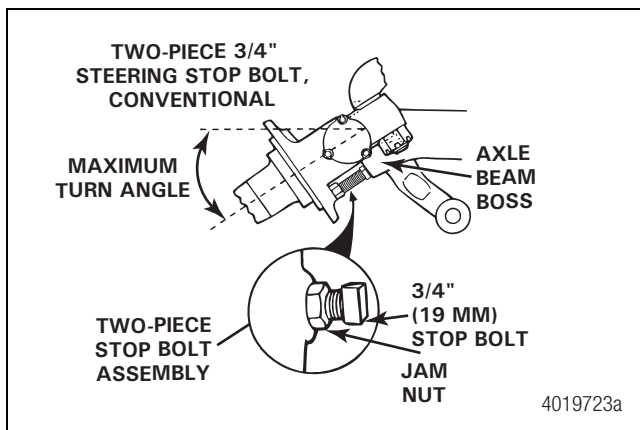

Figure 7.7
- Loosen the stop bolt jam nut. Figure 7.7.